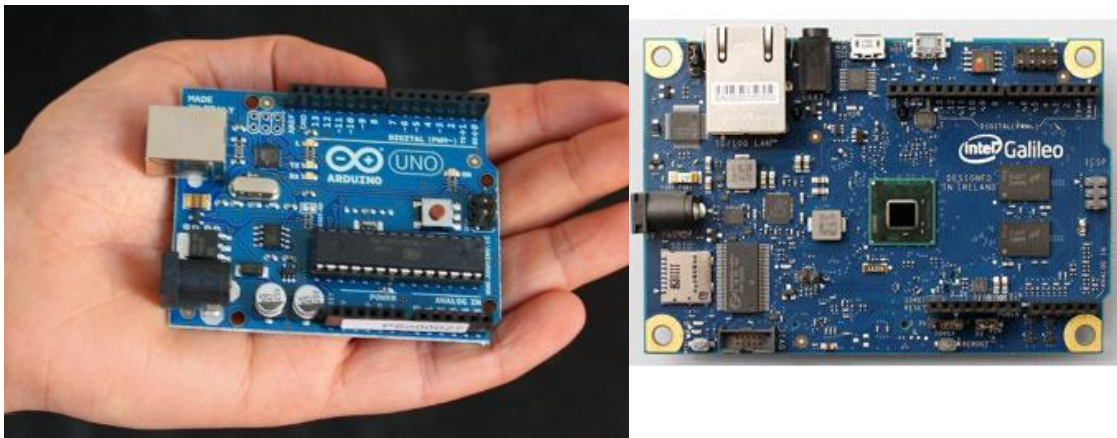

Figure 1. The Arduino UNO Board (left)[2] and the Intel Galileo Board (right) [4]
"The most profound technologies are those that disappear. They weave themselves into the fabric of everyday life until they are indistinguishable from it." Mark Weiser envisioned the future of computing in his seminal paper in 1991 [1]. Indeed, as researchers in computer science, the computers "on our radar" shouldn't only be PCs sitting on our desktop – machines in large data centers, cell phones/tablets hiding in people's pockets or bags, and those intelligent sensors embedded in our daily environments are all important research topics in this "post-PC" era. The motivation of this homework assignment is to let you be aware of technologies and opportunities on building interfaces and interactive systems beyond traditional desktop GUIs via a set of exercises designed for Arduino [2] and Intel Galileo [4] (figure 1).
The Arduino hardware has gone through multiple rounds of design revisions and upgrades since its first release in 2005. We will use its latest version, code named “Arduino UNO” (figure 1) for our homework assignment this time. To give you some basic ideas, Arduino UNO has an ATmega328 processor, 32 KB flash (for saving programs), 2 KB RAM, 14 Digital I/O pins and 7 analog I/O pins.
- One Arduiono UNO board (figure 1, left)
- One Intel Galileo board (figure 1, right)